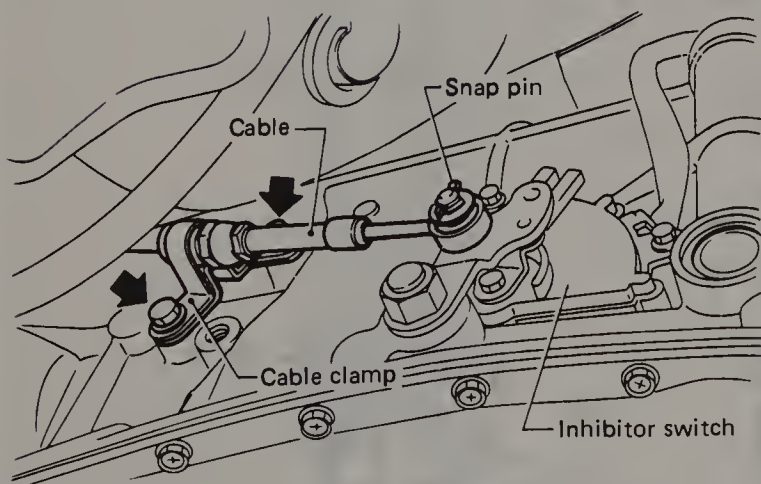

Fig. 13.56 Separate the shifter cable from the transmission lever by removing the snap pin (Sec 11)
- 3 Separate the shifter cable from the transmission lever (Fig. 13.56).